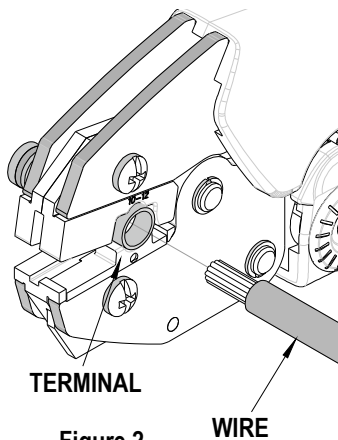

Figure 2
3. Partially close the tool to hold the terminal in place. See Figure 2.
4. Insert the properly stripped wire into the terminal barrel. See Figure 2 and 3. The wires end should butt against the wire stop inside the terminal. Cycle the tool.